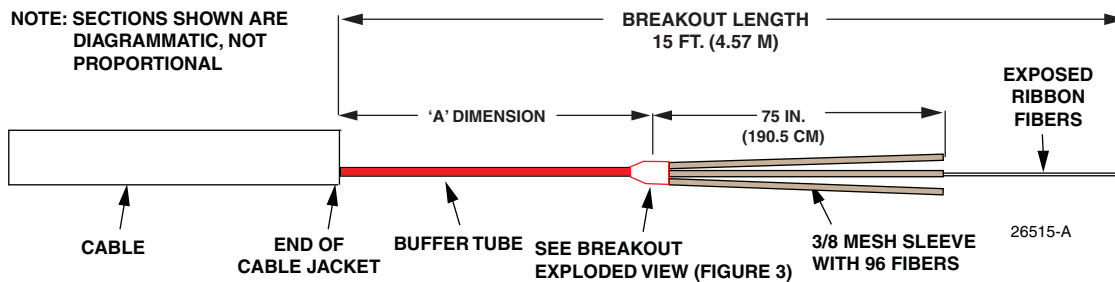
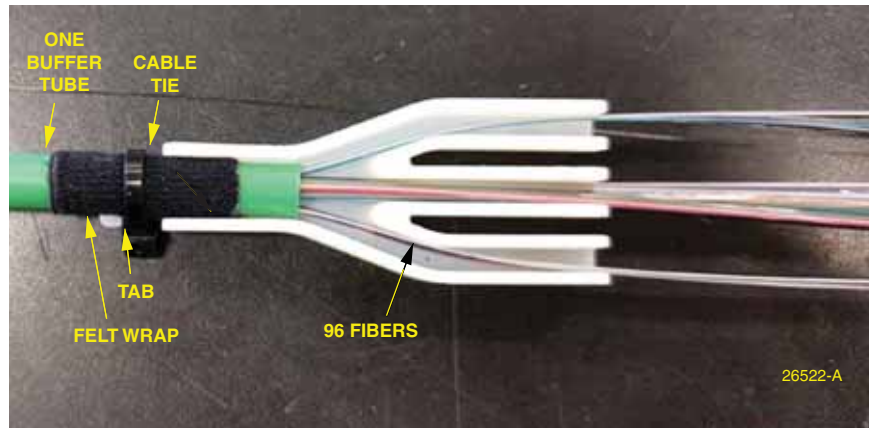

Figure 7. OSP Loose Buffer Tube Ribbon Cable Breakout
Figure 8. Breakout Insert Installed on Loose Buffer Tube
- b. **Loose Buffer Tube Cable:** When breaking out a buffer tube cable, dimension 'A' will be an extension of the buffer tube from the cable jacket. For breakout dimensions, refer to Figure 7 and Table 5. Use the following procedure.
- Install a breakout on each buffer tube referring to Figure 7 and also to Section 7 on page 4. Note that this involves first putting a piece of felt tape around the buffer tube and then installing a cable tie over the felt tape. The cable tie should be placed around the “tab” feature shown in Figure 8.
- Install mesh sleeve of length = 75 in. (190.5 cm) on each 96-fiber branch from the breakout as shown in Figure 7.